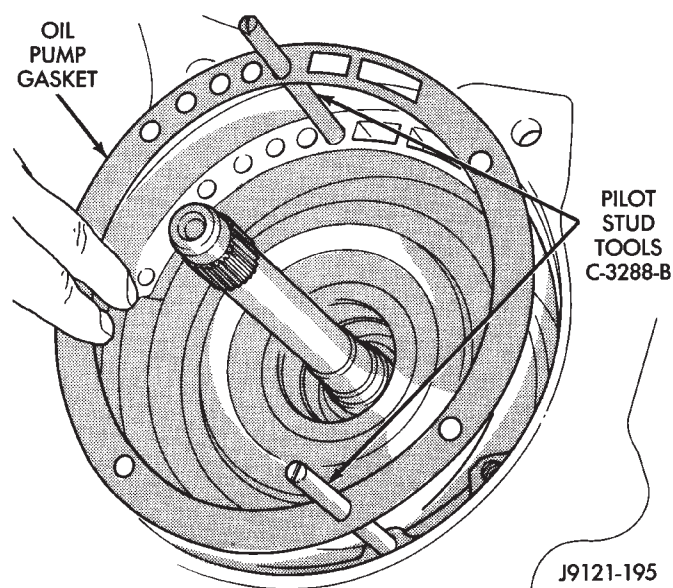

Fig. 152 Installing Pilot Studs And Oil Pump Gasket
(8) Thread two Pilot Stud Tools C-3288-B into bolt holes in oil pump flange (Fig. 152).
(9) Align and install oil pump gasket (Fig. 152).